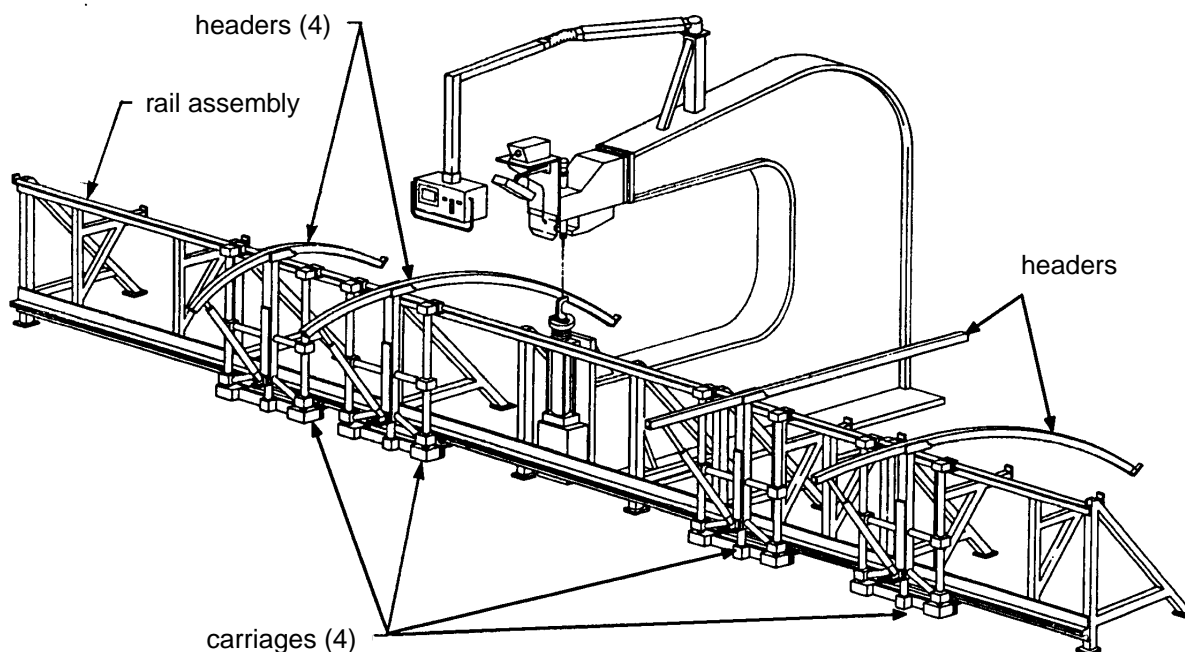

Figure 3 - Drivmatic Panel Position Assembly
- 5.1.6 The panel positioner assembly (applicable for models CE3941 and CE3994) allows 3 axes of movement for positioning work pieces between the upper and lower anvils. The assembly consists of 4 carriages, 4 header assemblies and a set of transverse rails (see Figure 3). The rails extend across the front of the Drivmatic riveter for a distance of approximately 30 feet on either side of the spindle centre line. A header assembly attached to each carriage for positioning either flat or curved workpieces, travels along the rails and brings the workpiece into position for the desired operation.